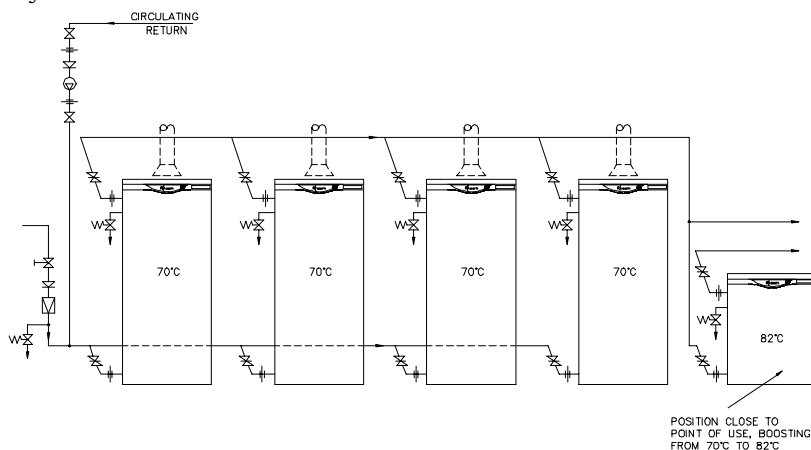

Fig. 12.2 Modular Heavy Duty design providing hot water for two temperature zones
providing hot water at 65-70°C to the entire building, and to which is coupled another water heater that boosts the 65-70°C water to 82°C for the kitchen area. This design has the advantage of minimising heat loss by circulating the 65-70°C water and then boosting water at the point of use to 82°C. As the 82°C water heater is only boosting 17°C, the water heater can be a smaller capacity. Figure 12.2 shows such a system.
- ▶ From a booster water heater certified for operation at 82°C and fed with hot water at 60°C from the main hot water supply system (as shown in Fig. 12.2)